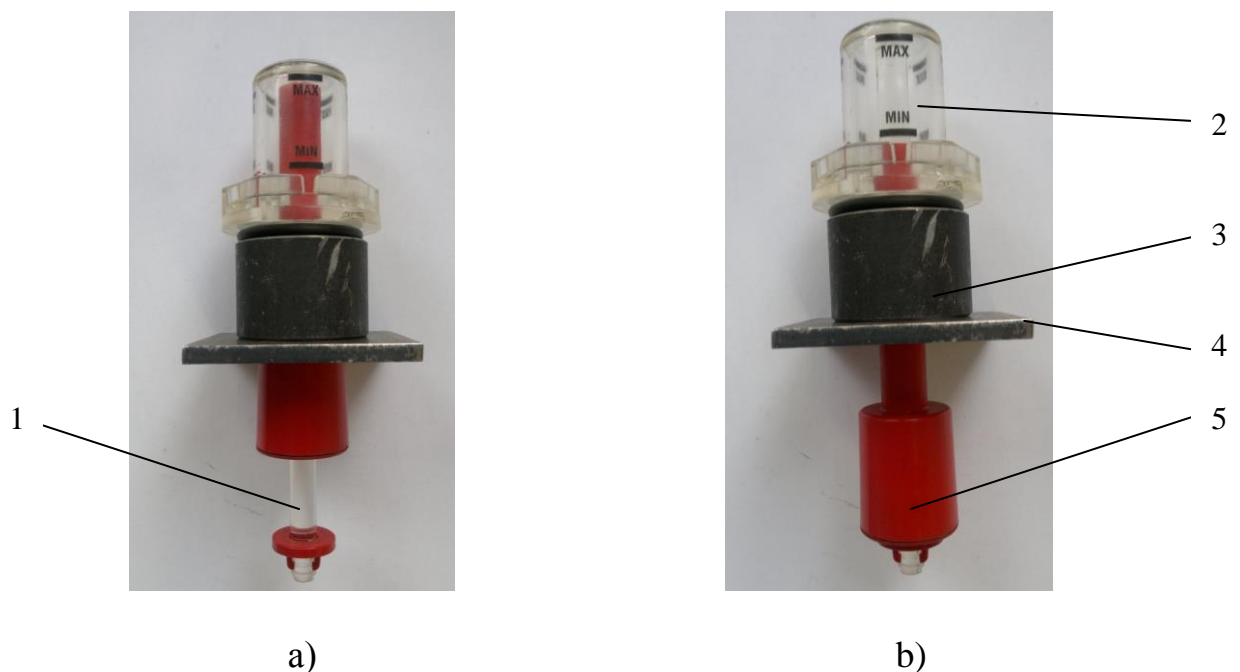

Fig. 8.1 Position of the oil indicator float:
– to check oil presence for TMPNG with the oil indicator of a float type (fig. 8.1), for TMPN – with a pointer oil indicator. The criterion of the normal oil level is the float (pointer) location above the minimum mark. It is allowed oil presence in oil indicator flask. If the level is not sufficient, inform the manufacturer;